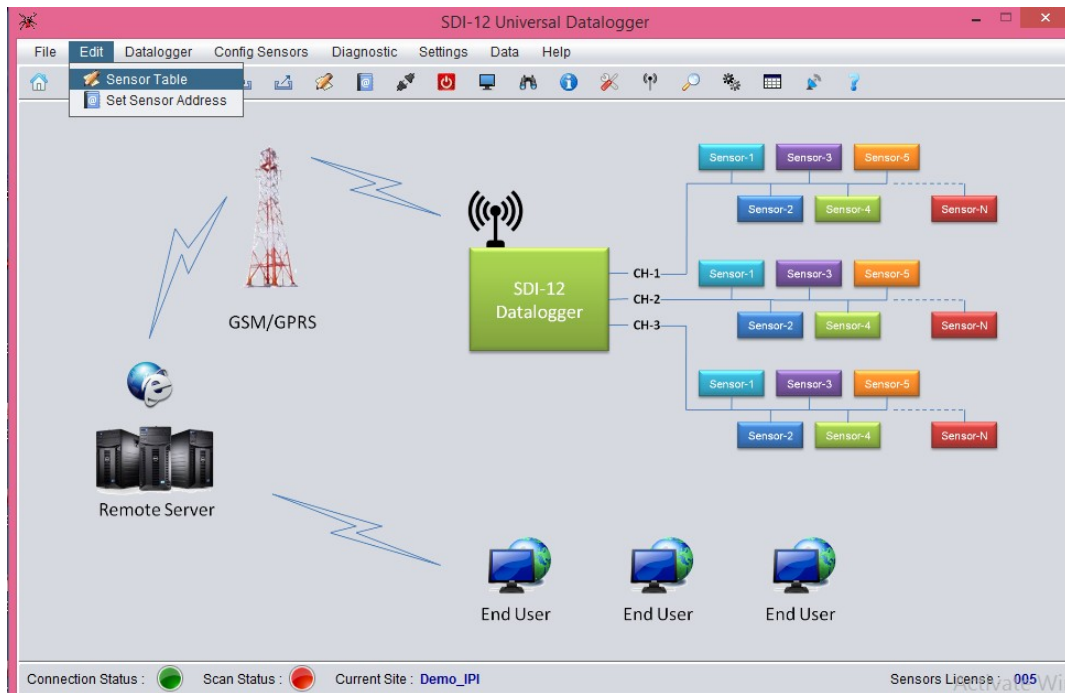

Figure 32 Edit menu with sensor table option of EDSL-30UNI Configuration Manger Software
- Click “Edit” menu followed by “Sensor Table” as shown in figure 32 below to define the parameter name & unit of each sensor